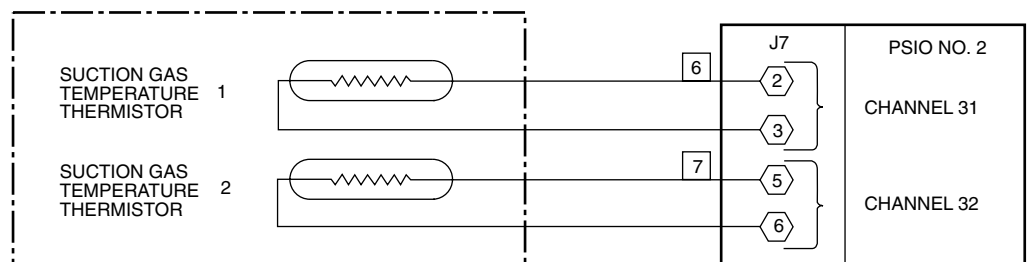

Fig. 59 — Transducer/Thermistor
- refrigerant transducer/thermistor (Fig. 59)